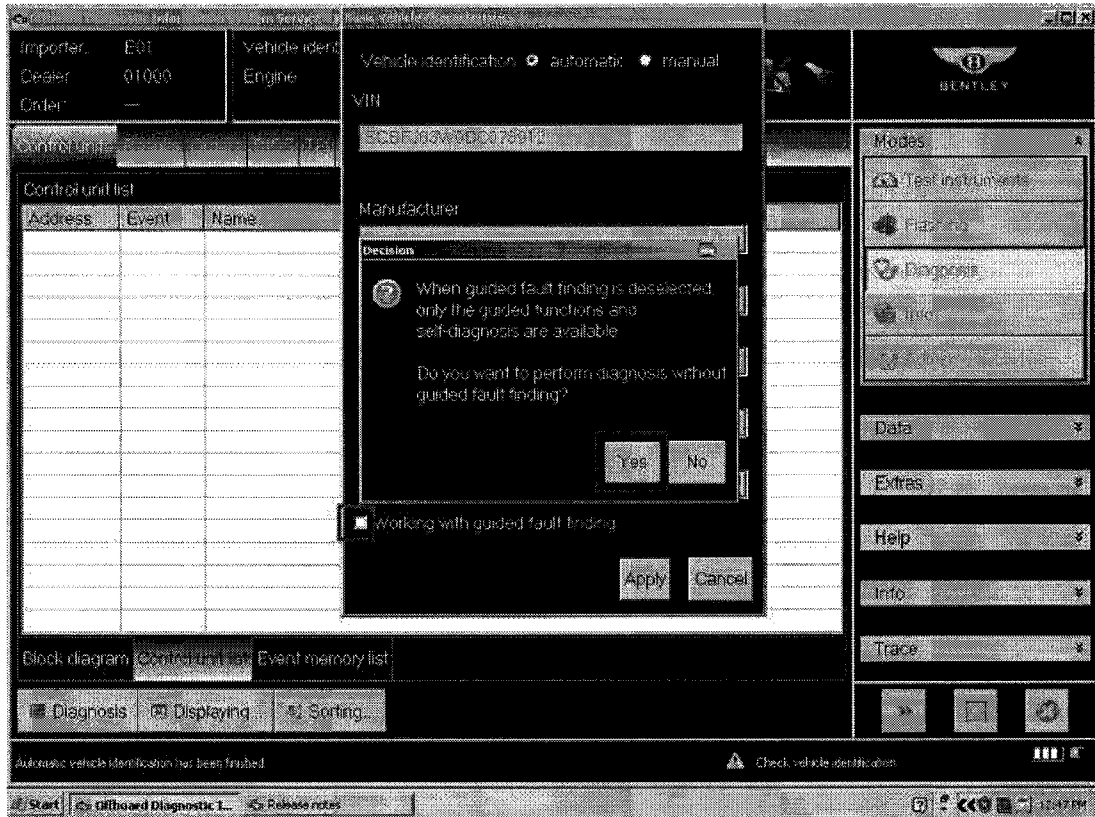

Figure 1
7. Deselect Guided Fault Finding – remove tick from *Working with guided fault finding* option – then select *Yes* at pop-up and *Apply* (see Figure 1)